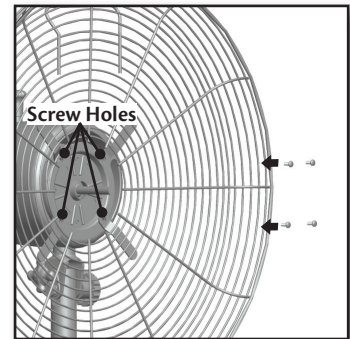

Figure 12.
2. Attach the Back Grill(9) to the Motor(5) using the 4 Grill Mount Screws. Figure 12.